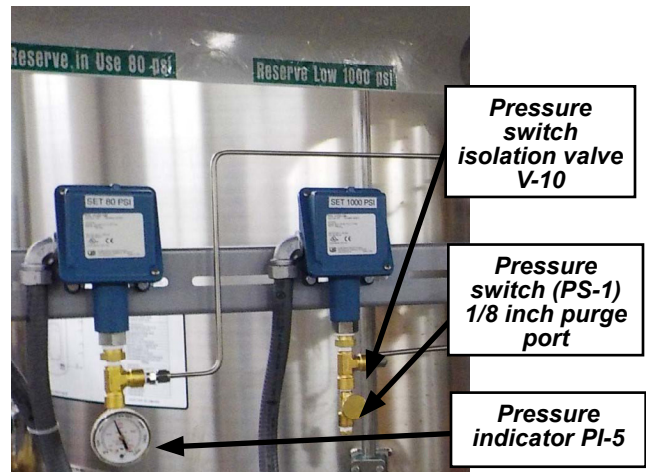

Figure 15 - Pressure switch isolation valves
- Ensure valves V-10 & V-11 (see Figure 15 & 16) are closed and slowly open valve V-2.
- Remove plug from V-10 valve (see Figure 15) and slowly open the valve in order to purge the short instrument line with oxygen.
- Remove plug from the purge valve found at the bottom of the switch (V-10) (see Figure 15).